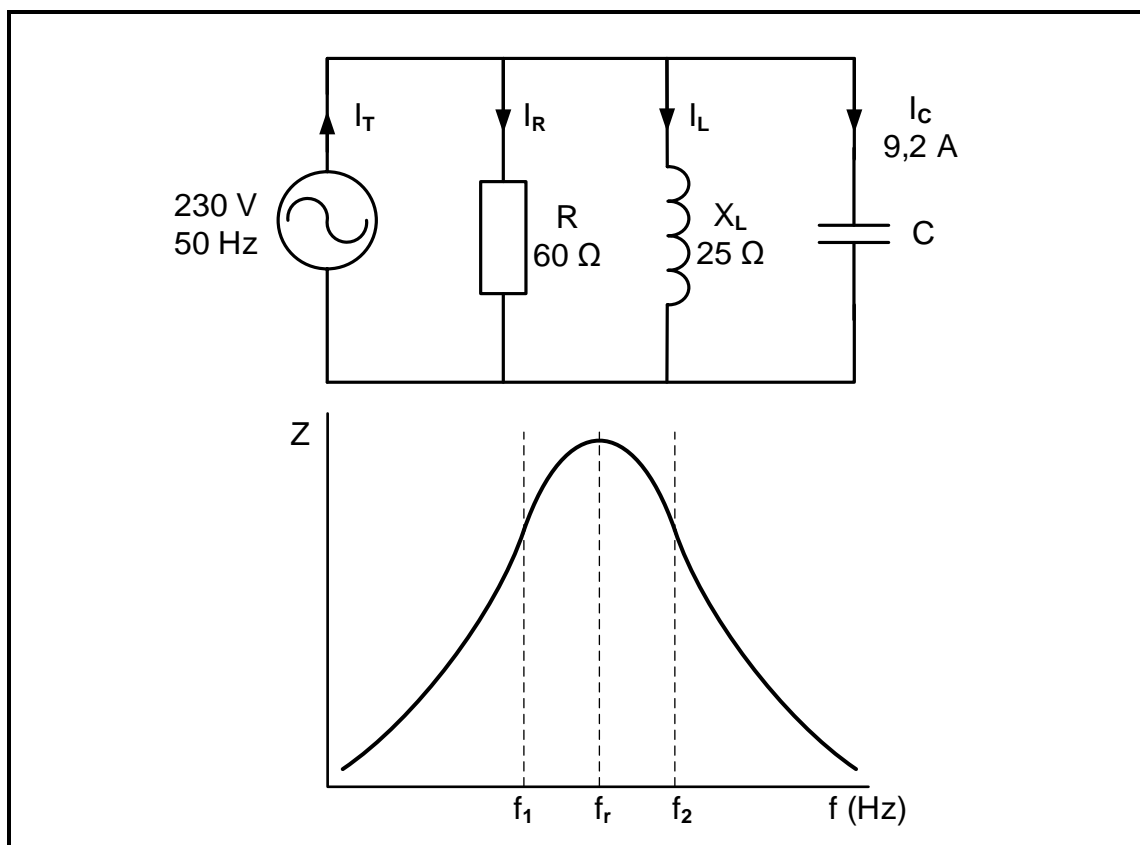

FIGURE 3.3: RLC PARALLEL CIRCUIT AND FREQUENCY RESPONSE CURVE
- 3.3 FIGURE 3.3 below shows an RLC parallel circuit and its impedance vs frequency response curve. Answer the questions that follow.